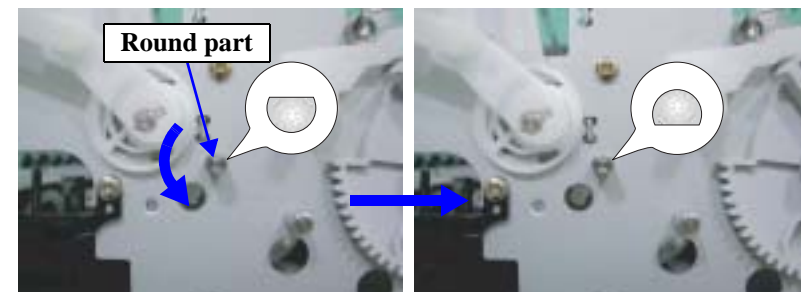

Figure 4-89. How to Install the Release Lever Shaft
- When reinstalling the Release Lever Shaft, face the round part of its end downward, and then turn it counterclockwise to face the round part upward. Refer to Figure 4-89, "How to Install the Release Lever Shaft".